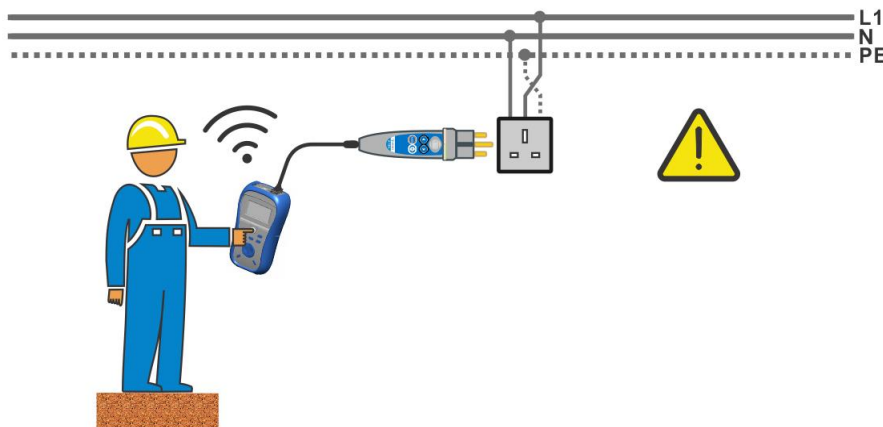

Figure 5.41: Reversed L and PE conductors (application of plug cable or commander)
- ❑ **Connect** test leads to the item to be tested (see *figures 5.41 and 5.42*).